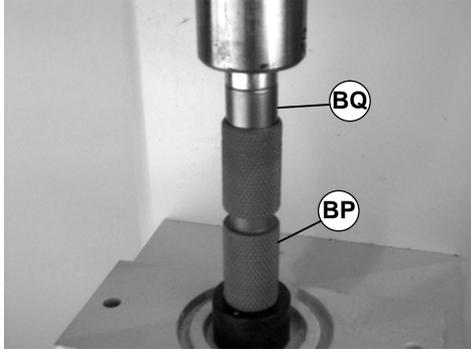

Figure 53
4. Press bearing (BQ of Figure 53) into pulley (BP) until seated.